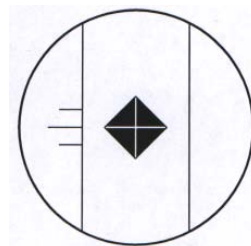

Figure 6-15 Correct image
4. Observe the image through objective 40x, one of the diagonals should be horizontal as Figure 6-15 illustrated.